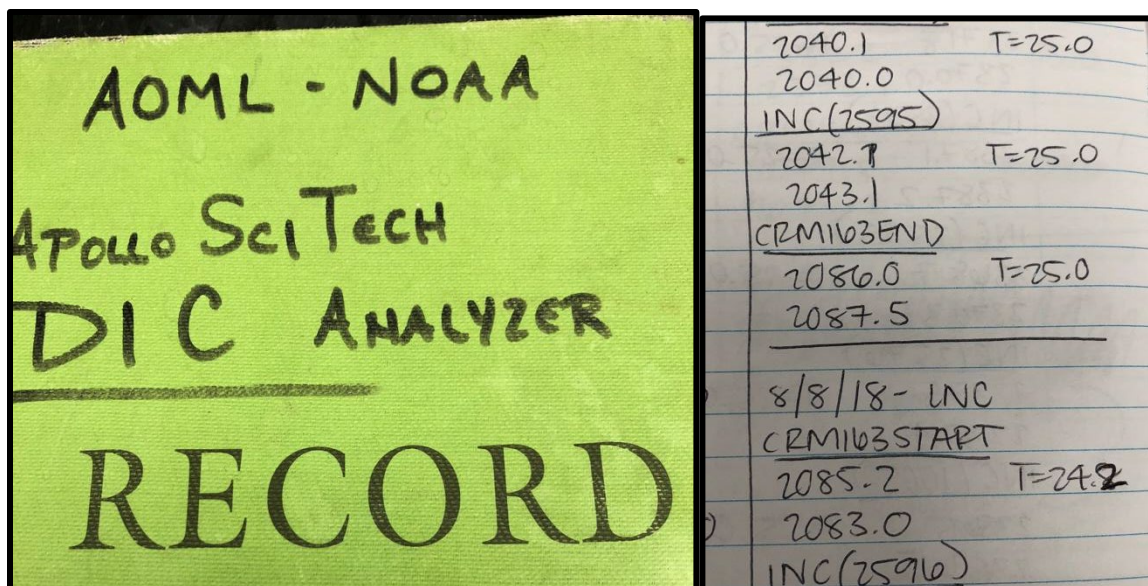

Figure 10. Photo of the DIC record book as well as how to properly record the data.
17. Record the two valid DIC values into the DIC record book, along with the temperature recorded of the sample. (Figure 10).